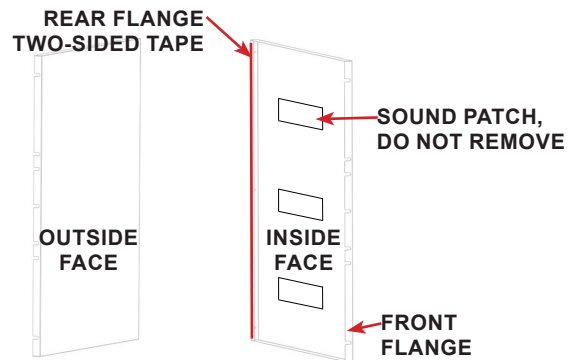

FIGURE 2.56 - End Panel Tape
STEP 5: Remove two-sided tape paper strip to expose the adhesive side of the tape. See FIGURE 2.56